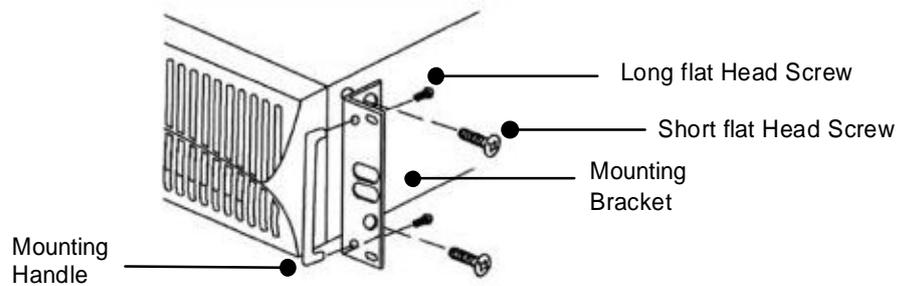

Figure 2. Installing the Mounting Brackets
2. Attach the mounting handles to the bracket with the screws provided in the accessory kit (see Figure 2).
3. Align the mounting brackets with the screw holes on the side of the UPS and secure with the supplied screws (see Figure 2).